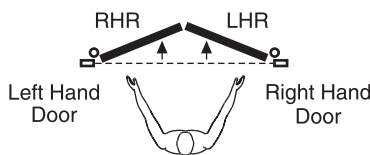

Figure 1
1. Determine if right hand or left hand installation. (Figure 1)